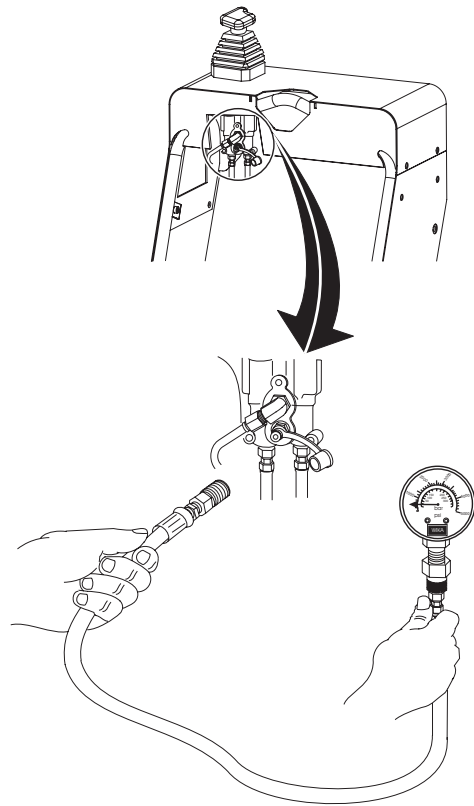

Figure 59. Steering Pressure Check
1. Remove the left-side access cover and insert the test pressure gauge (300 to 600 psi) into the left steering valve's diagnostic quick coupler as shown in Figure 59.